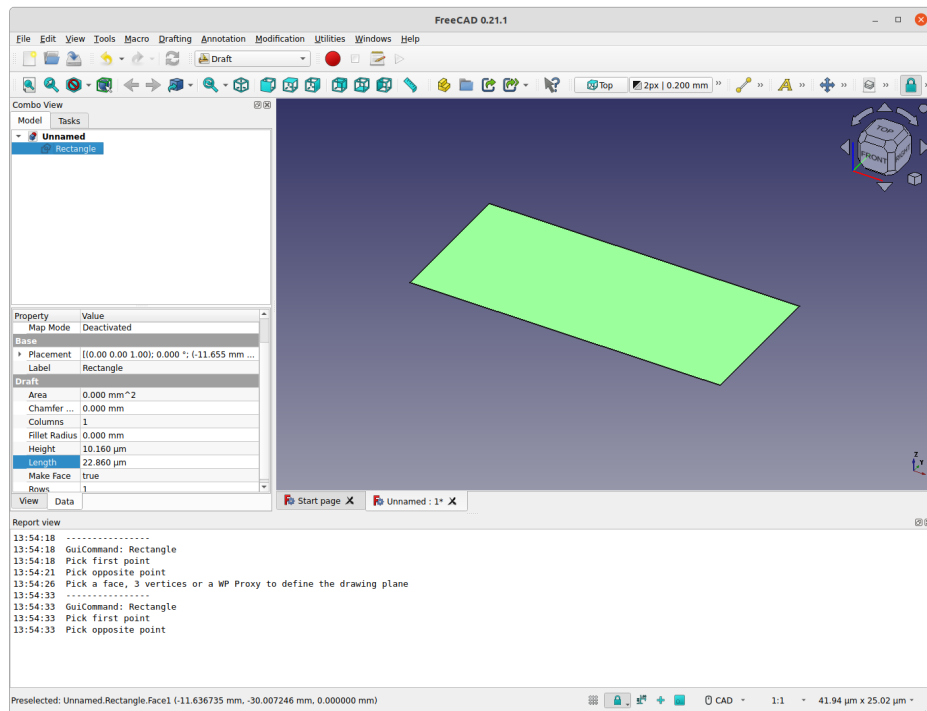

Figure 2: Screen shot of a rectangle sized for WR90 waveguide using μm for ultimate mm scaling.
- Zoom to view the rectangle with **View**→**Standard Views**→**Fit All**. A reference screen shot is shown in Fig. 2